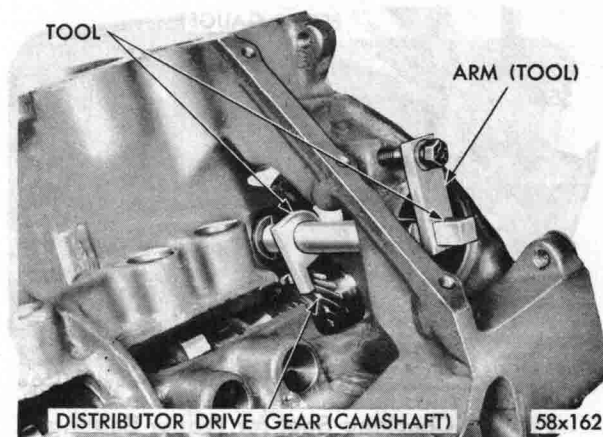

Fig. 40—Camshaft Holding Tool C-3509
(1) Lubricate the camshaft lobes and camshaft bearing journals and insert the camshaft to within 2 inches of its final position in the cylinder block.
(2) Modify Tool C-3509 by grinding off the index lug holding upper arm on the tool and rotate arm 180°.
(3) Install Tool C-3509 in place of distributor drive gear and shaft, as shown in Figure 40.
(4) Hold the tool in position with distributor lock plate screw. This tool will restrict the camshaft from being pushed in too far and prevent knocking out the welch plug in the rear of the cylinder block. **The tool should remain installed until the camshaft and crankshaft sprockets and timing chain have been installed.**